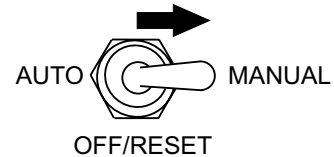

Figure 26. MPEC Control Switch (Manual Position)
- Place the **MPEC control switch** in the **MANUAL** position to start the engine (Figure 26) position.